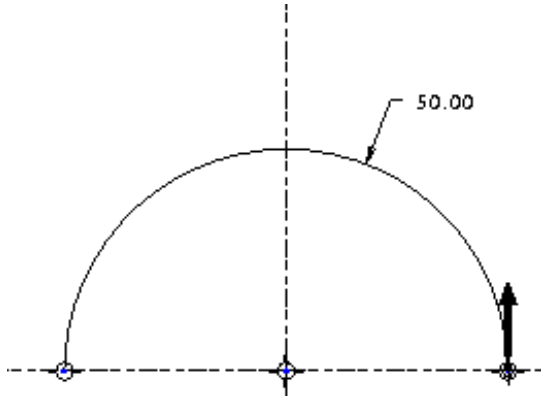

Figure 13-71 Sketch of the first arc
- Create the base feature, which is a blend surface, refer to Figures 13-71 through 13-73.
7. Close the **References** dialog box and draw the arc and dimension it as shown in Figure 13-71.